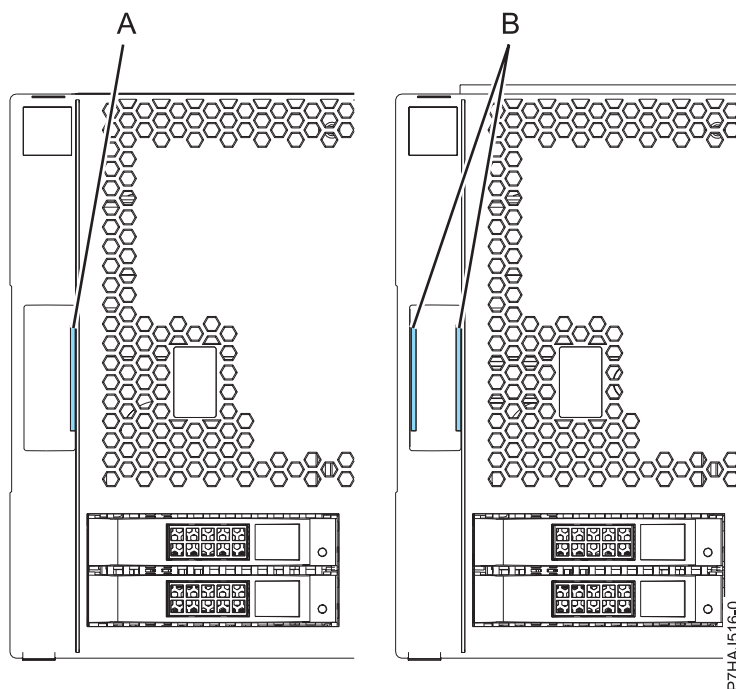

Figure 5. Identifying the older and newer covers
Note: The older covers that were shipped before 1 March 2011 can be identified by a single blue stripe (A) on the cover assembly latches. Newer covers that were shipped after 1 March 2011 have two blue stripes (B) on the cover assembly latches. See Figure 5.